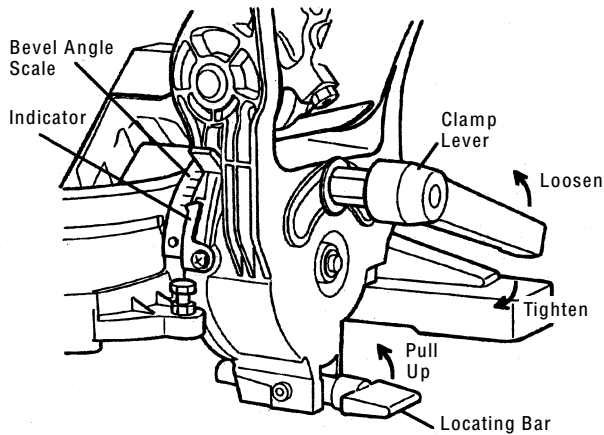

Fig. 23
- (1) Loosen the clamp lever and bevel the saw blade to the left or to the right. When tilting the motor head to the right, pull up the locating bar as indicated in Fig. 23.
- (2) Adjust the bevel angle to the desired setting while watching the bevel angle scale and indicator, then secure the clamp lever.